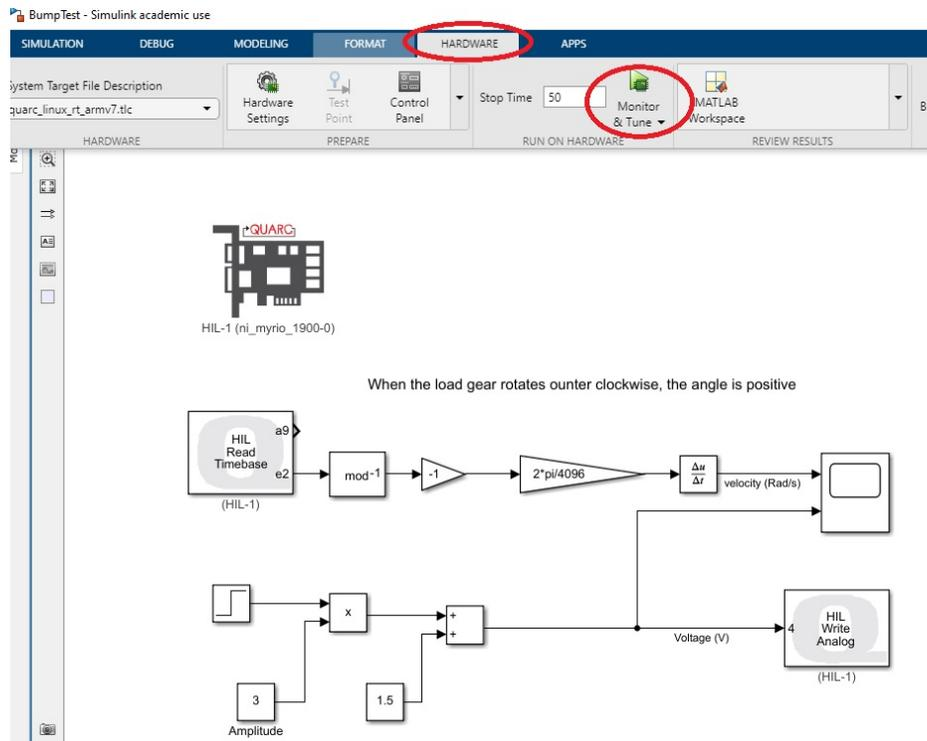

Figure 3: Input and output for a bump test
- In SIMULINK, go to tab **HARDWARE**, then click button **Monitor & Tune** to start to run the model in real time. (Figure 3)